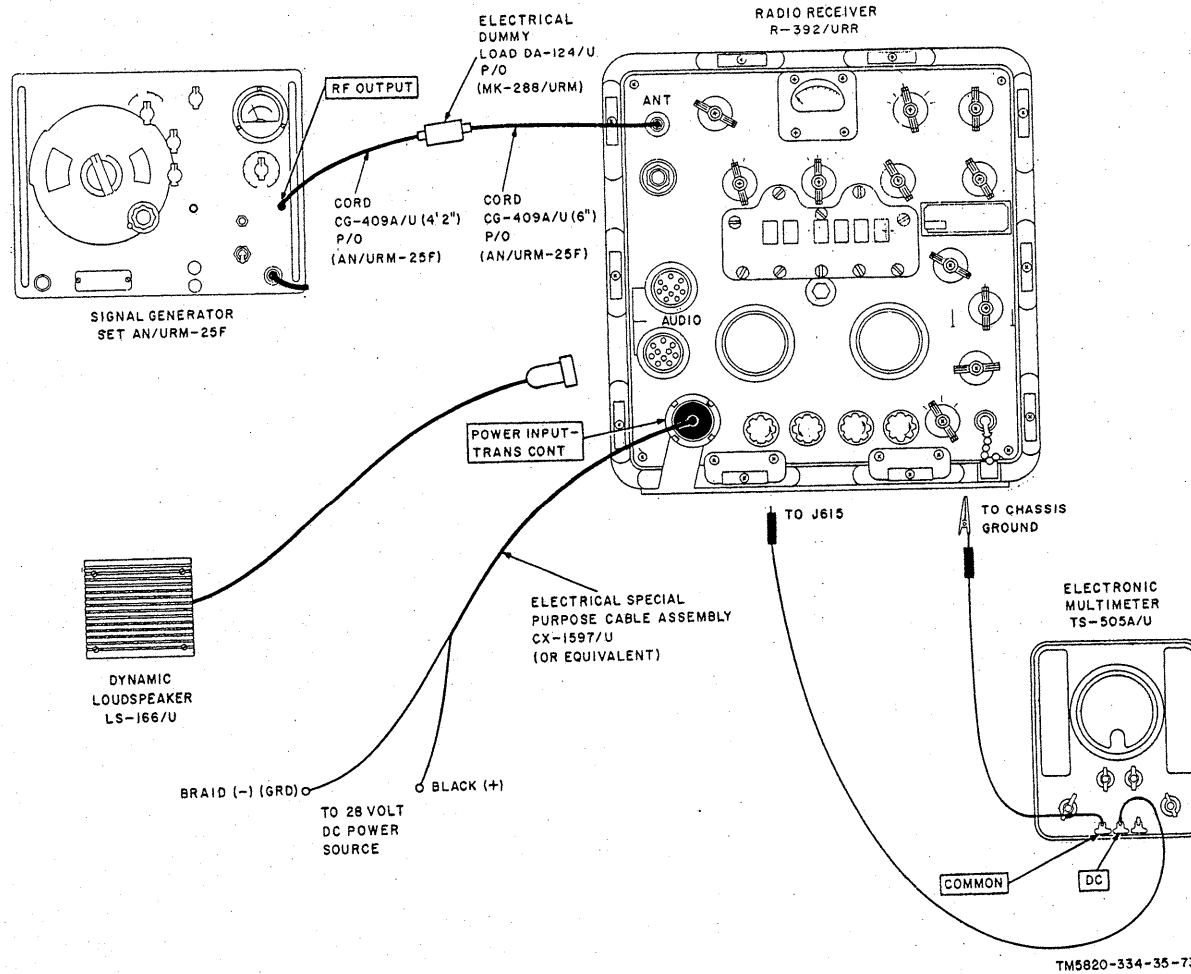

Figure 73. Squelch operation test.
100. Squelch Operation Test (fig. 73)
b. Test Connections and Conditions. Connect the equipment as shown in figure 73.